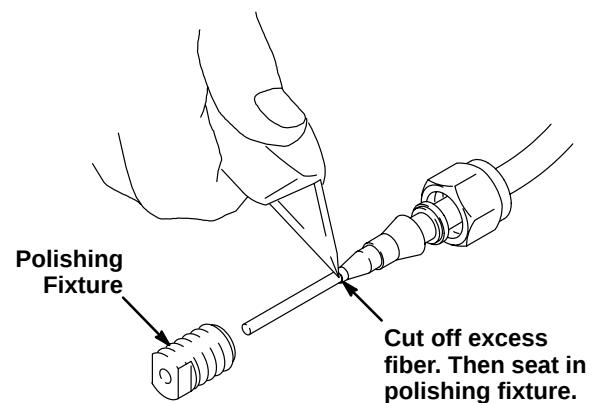

Fig 2 01014
4. After the adhesive is set, use a knife to cut off the excess fiber, down to the adhesive. See Fig 2.